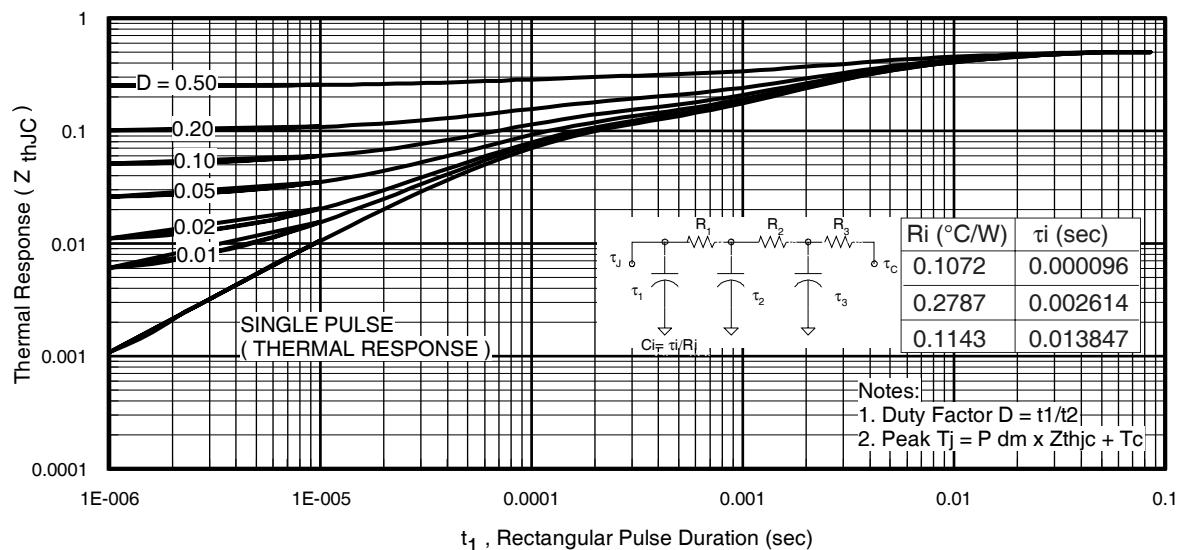
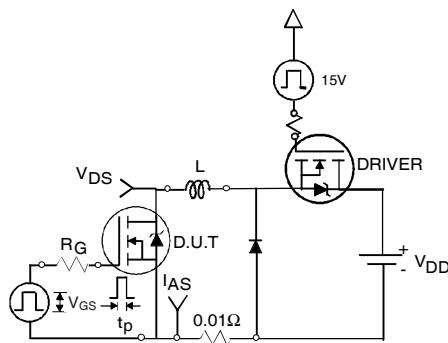

Fig 11. Maximum Effective Transient Thermal Impedance, Junction-to-Case
Fig 12a. Unclamped Inductive Test Circuit
- ① Repetitive rating; pulse width limited by max. junction temperature. (See fig. 11).
- ② Limited by $T_{J\text{max}}$, starting $T_J = 25^\circ\text{C}$, $L=0.026\text{mH}$, $R_G = 25\Omega$, $I_{AS} = 110\text{A}$, $V_{\text{GS}} = 10\text{V}$. Part not recommended for use above this value.
- ③ Pulse width $\leq 1.0\text{ms}$; duty cycle $\leq 2\%$.
- ④ $C_{\text{oss eff.}}$ is a fixed capacitance that gives the same charging time as C_{oss} while V_{DS} is rising from 0 to 80% V_{DSS} .
- ⑤ Limited by $T_{J\text{max}}$, see Fig.12a, 12b, 15, 16 for typical repetitive avalanche performance.
- ⑥ This value determined from sample failure population. 100% tested to this value in production.
- ⑦ This is applied to D²Pak, when mounted on 1" square PCB (FR-4 or G-10 Material). For recommended footprint and soldering techniques refer to application note #AN-994.
- ⑧ R_θ is measured at T_J of approximately 90°C .
3. Equation below based on circuit and waveforms shown in Figures 12a, 12b.
$Z_{thJC}(D, t_{av})$ = Transient thermal resistance, see figure 11)